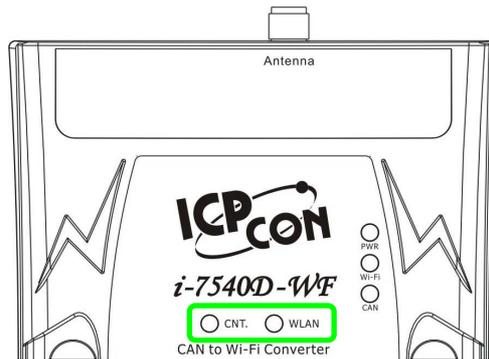

Figure 4-9: I-7540D-WF successful connection LED
- 4、If I-7540D-WF WLAN LED and CNT. LED on the panel are always turned on, refer to Figure 4-9, it means the I-7540D-WF and I-7540D-WF Utility connection established successfully. Users can use the I-7540D-WF Utility to transmit or receive CAN data. User can refer to the description in the CAN Transmission / Reception section.
4. If I-7540D-WF WLAN LED and CNT. LED on the panel are always turned on, refer to Figure 4-9, it means the I-7540D-WF and I-7540D-WF Utility connection established successfully. Users can use the I-7540D-WF Utility to transmit or receive CAN data. User can refer to the description in the CAN Transmission / Reception section.